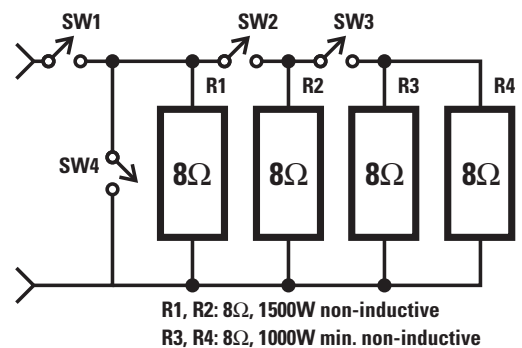

Figure 1.1. Load resistor bank
- Bank of non-inductive load resistors, configurable as 8 ohms (min. 1500 watts capacity), as 4 ohms (min. 3000 watts), and 2 ohms (min. 4000 watts). See Figure 1.1.